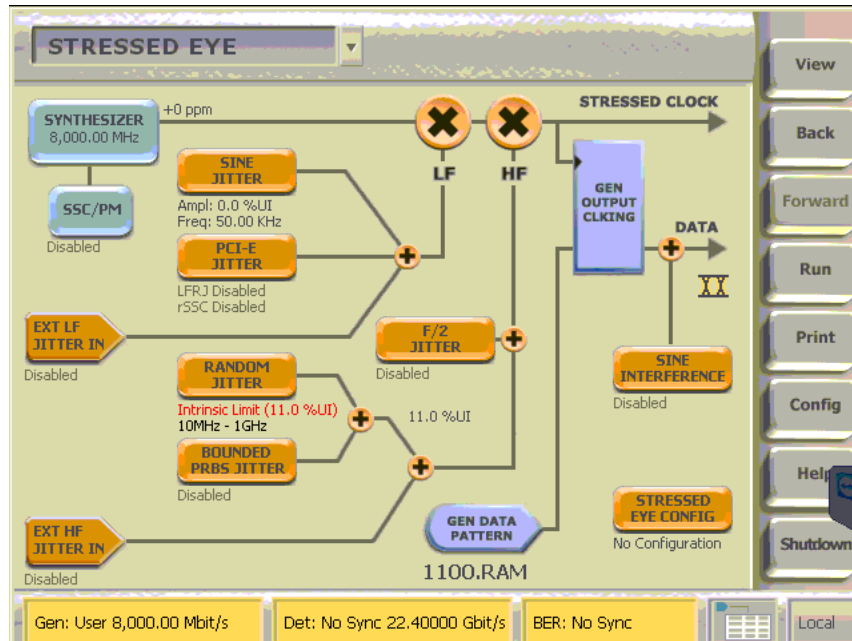

FIGURE 46. BERTSCOPE JITTER SETUP
4. Set the SJ Enable, Set the SJ Amplitude to 0.0mV. See Figure 46.